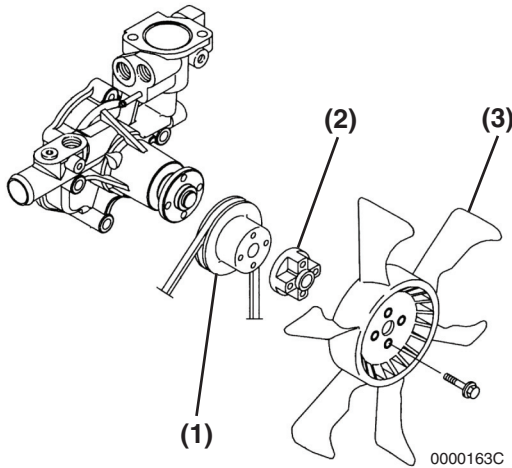

Figure 8-13
4. Reinstall the engine coolant pump V-pulley (**Figure 8-13, (1)**), spacer (**Figure 8-13, (2)**) engine coolant fan (**Figure 8-13, (3)**) and engine coolant fan guard (if equipped).